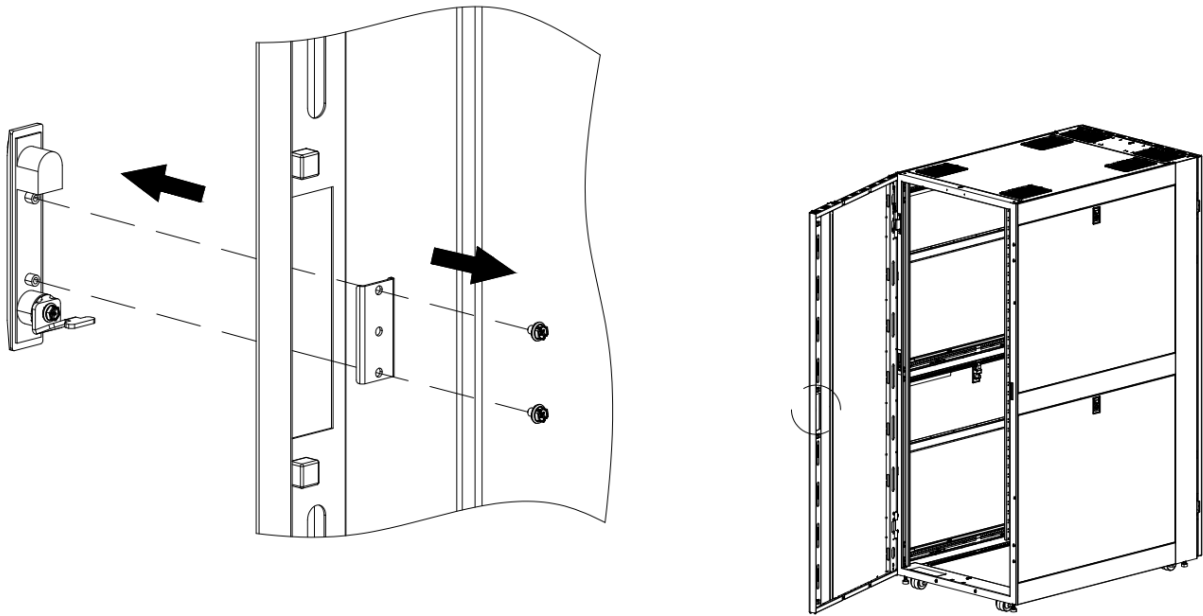

Figure 6.3.9
- Remove the handle by removing the two M5 hex screws behind the handle. Set screws aside for reinstallation in a later step. Pull the handle free from the door panel. (Figure 6.3.9)